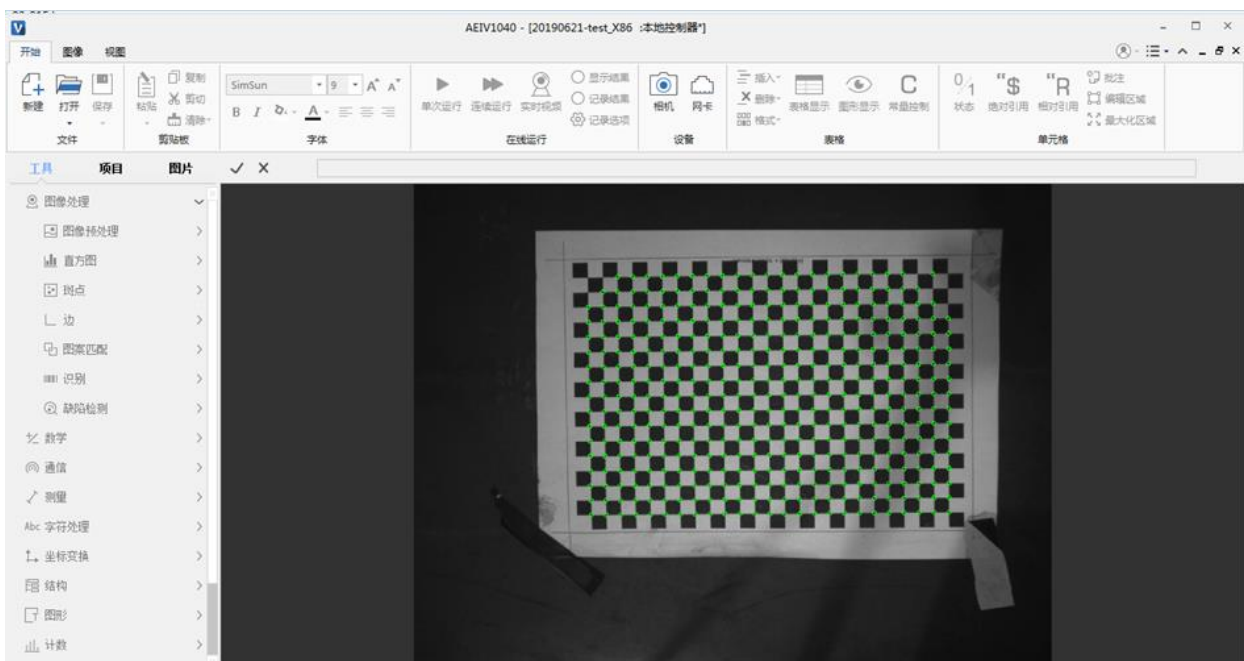

Figure 5-23 Chessboard calibration chart origin calibration
Step11. Click <Select Origin>, the chessboard calibration chart appears as shown in Figure 5-23. Select one of the green points and double-click it as the origin of the visual coordinate system (it turns red after double-clicking).